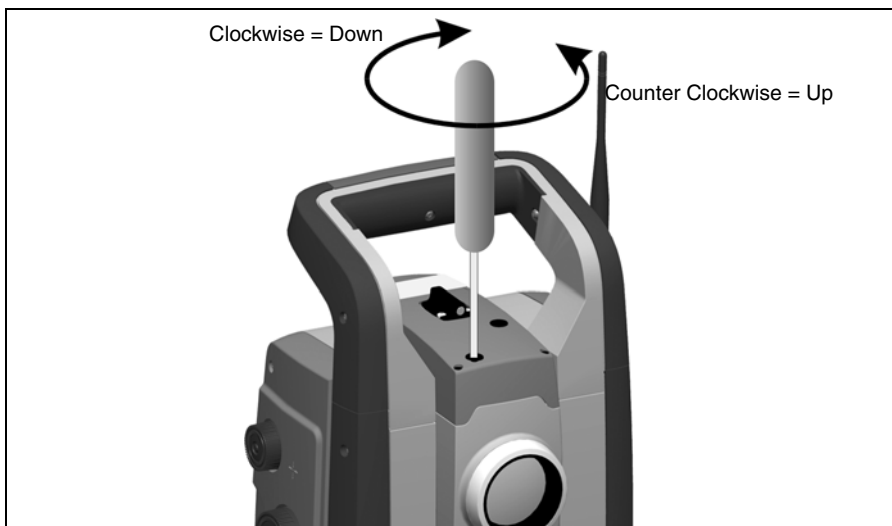

Figure 4.37 Vertical position adjustment
2. To correct the vertical position of the laser spot, insert the allen key into the vertical adjustment port and turn it as shown in figure 4.37.